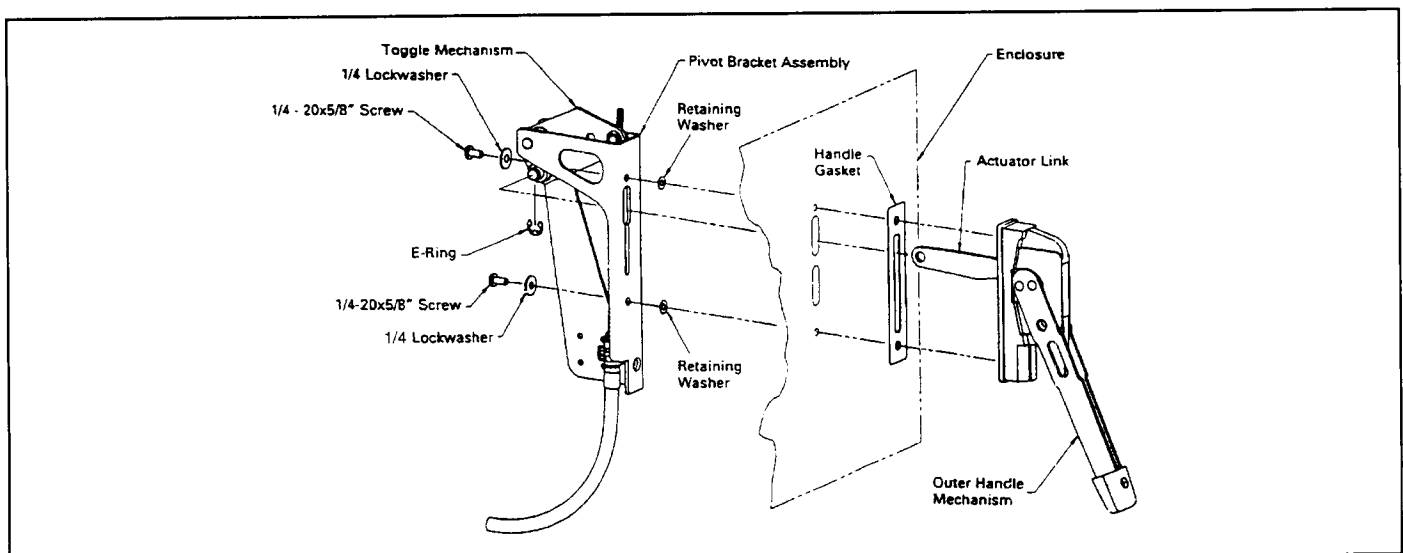

Fig. 1-1 Pivot Bracket and Outer Handle Mechanism Assembly
1. Remove the two 1/4-20 x 5/8" screws and lockwashers from the outer handle mechanism. Place each screw and lockwasher through the pivot bracket assembly. Thread the retaining washers enclosed in the parts kit onto the 1/4-20 x 5/8" screws. See Figure 1-1.
2. Connect the actuator link from the outer handle mechanism on the pivot bracket assembly. Mount the pivot bracket assembly to the enclosure and outer handle mechanism by securing the mounting hardware. Attach the E-Ring supplied in the parts kit to the actuator link. See Figure 1-1.